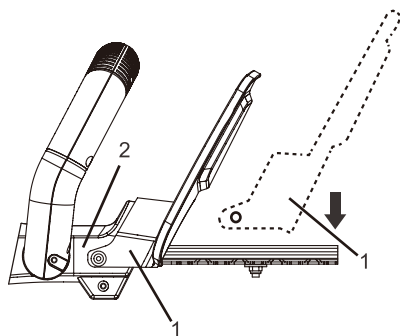

FIG. 7a
1. Slide the open end of the hand guard (1) down over the blade and back over the blade mount (2) (Fig. 7a).